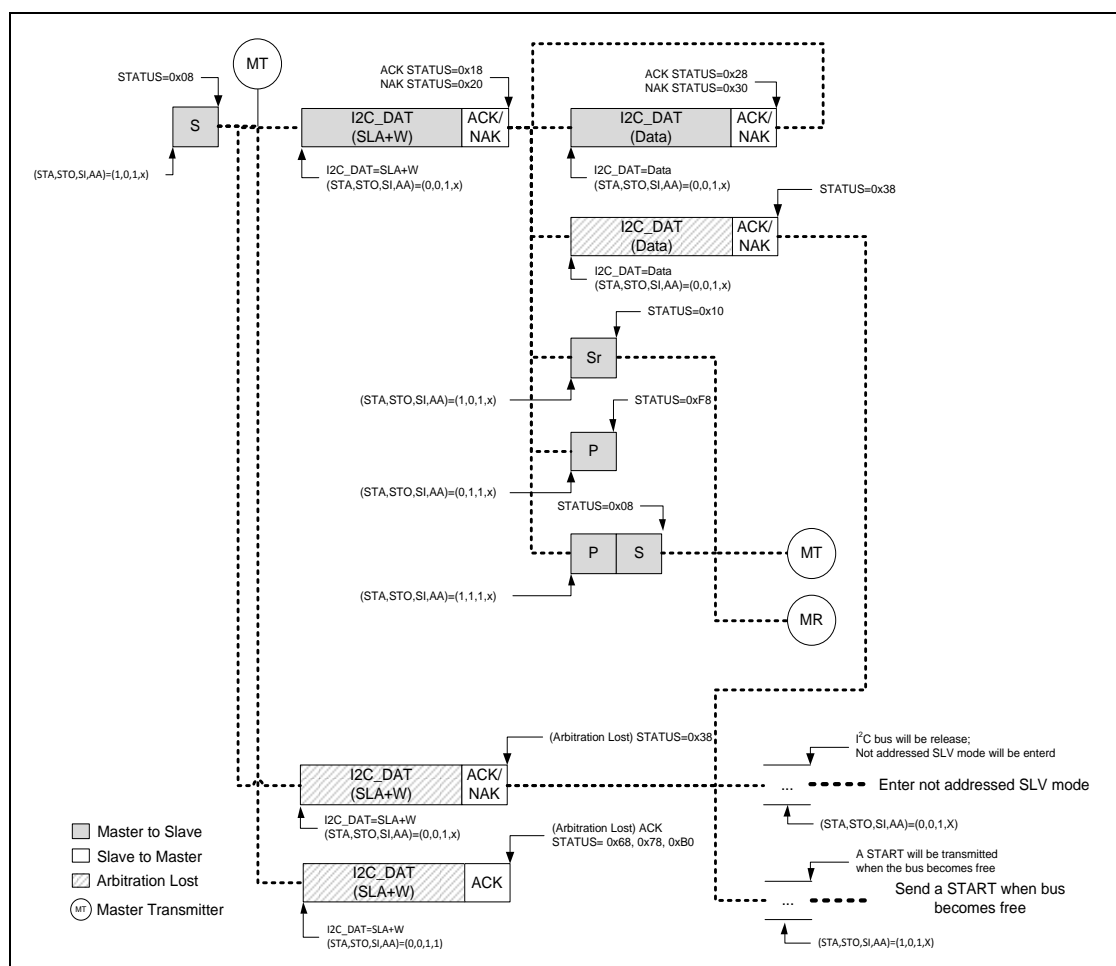
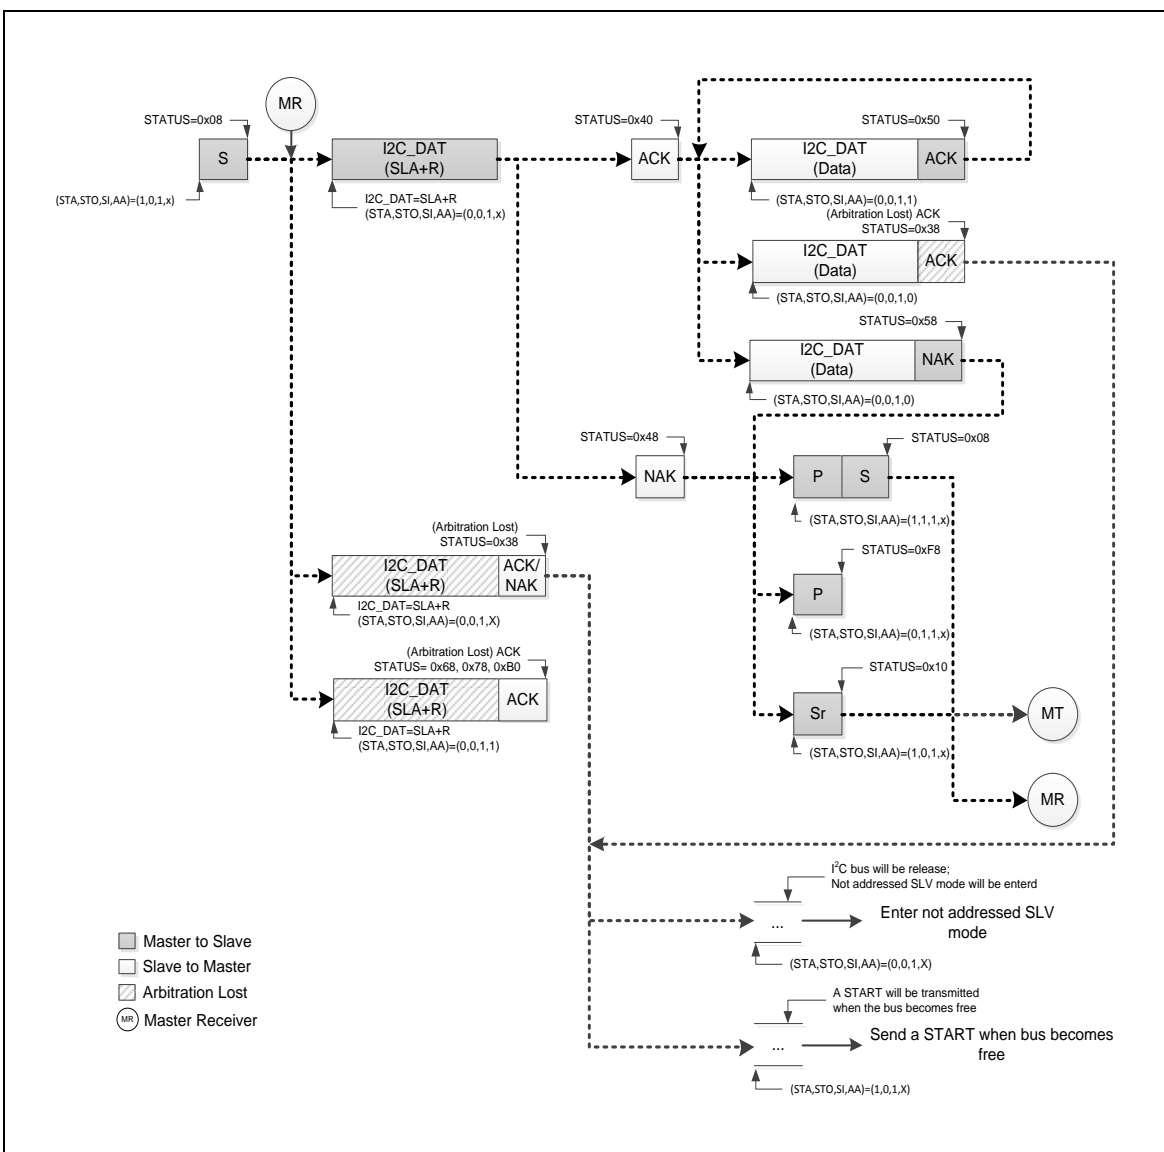

Figure 6.15-10 Master Transmitter Mode Control Flow
Figure 6.15-11 Master Receiver Mode Control Flow
In Figure 6.15-10 and Figure 6.15-11, all possible protocols for I²C master are shown. User needs to follow proper path of the flow to implement required I²C protocol.
In other words, user can send a START signal to bus and I²C will be in Master Transmitter (MT) mode (Figure 6.15-10) or Master receiver (MR) mode (Figure 6.15-11) after START signal has been sent successfully and new status code would be 0x08. Followed by START signal, user can send slave address, read/write bit, data and Repeat START, STOP to perform I²C protocol.